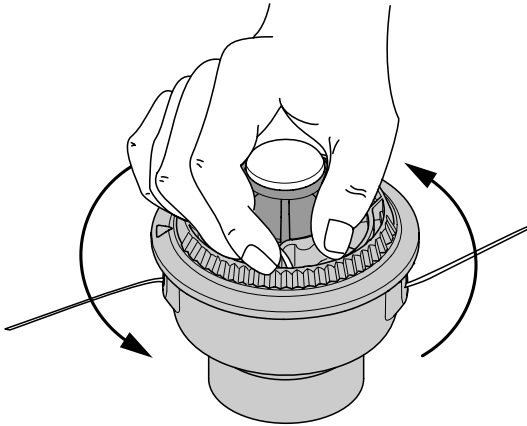

Fig. 21
8. Hold the outer spool. Wind the inner reel counterclockwise until approximately four (4) inches (102 mm) of line remain (Fig. 21).